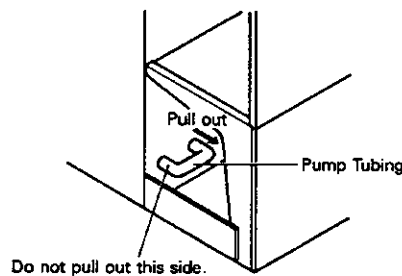

Fig. 16
- 5) Remove one end of the Pump Tubing, and drain the Water Tank. See Fig. 16.